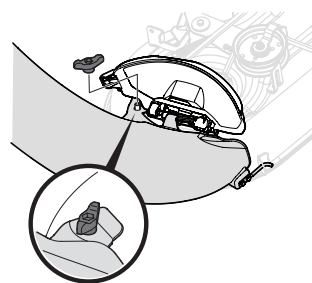

Figure 21
- Secure the boot to the deck by using a wing knob (720-04122) from hardware pack 689-02364. See Figure 21.